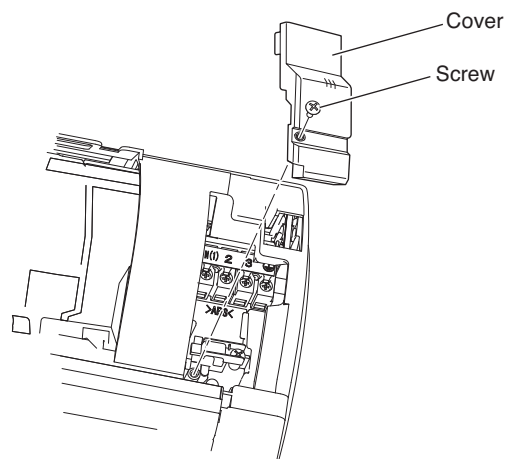
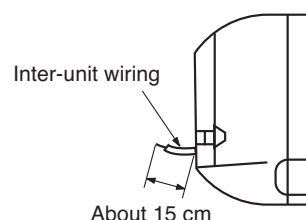

Fig. 15
Fig. 16
- (1) Grasp both ends of the front panel, and remove it by opening towards the front and pulling towards you.
- (2) Remove the screw on the right side cover and open the cover. (Fig. 15)
- (3) Insert the inter-unit wiring into the through-the-wall PVC pipe.
- (4) Route the inter-unit wiring from the back of the indoor unit and pull it towards the front for connection. (Fig. 16)